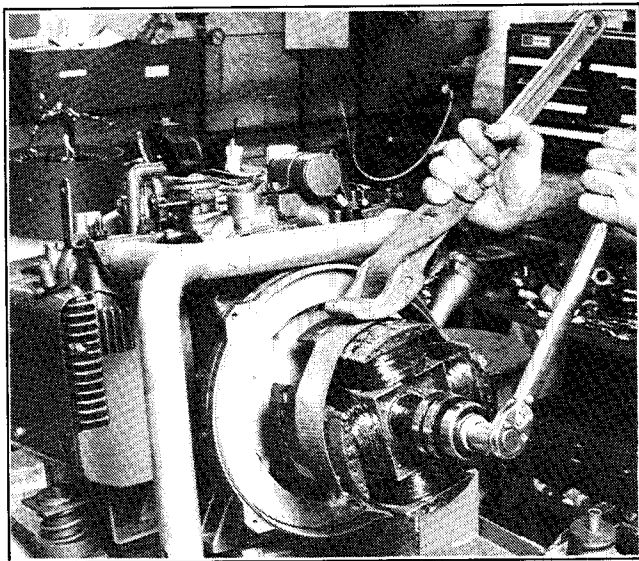

Figure 8-15. Torquing Rotor Thru-Bolt
2. Slide rotor onto tapered shaft and hand-tighten thru-bolt. Attach a strap wrench to rotor and torque thru-bolt to 50 ft. lbs. (68 Nm), see Figure 8-15.